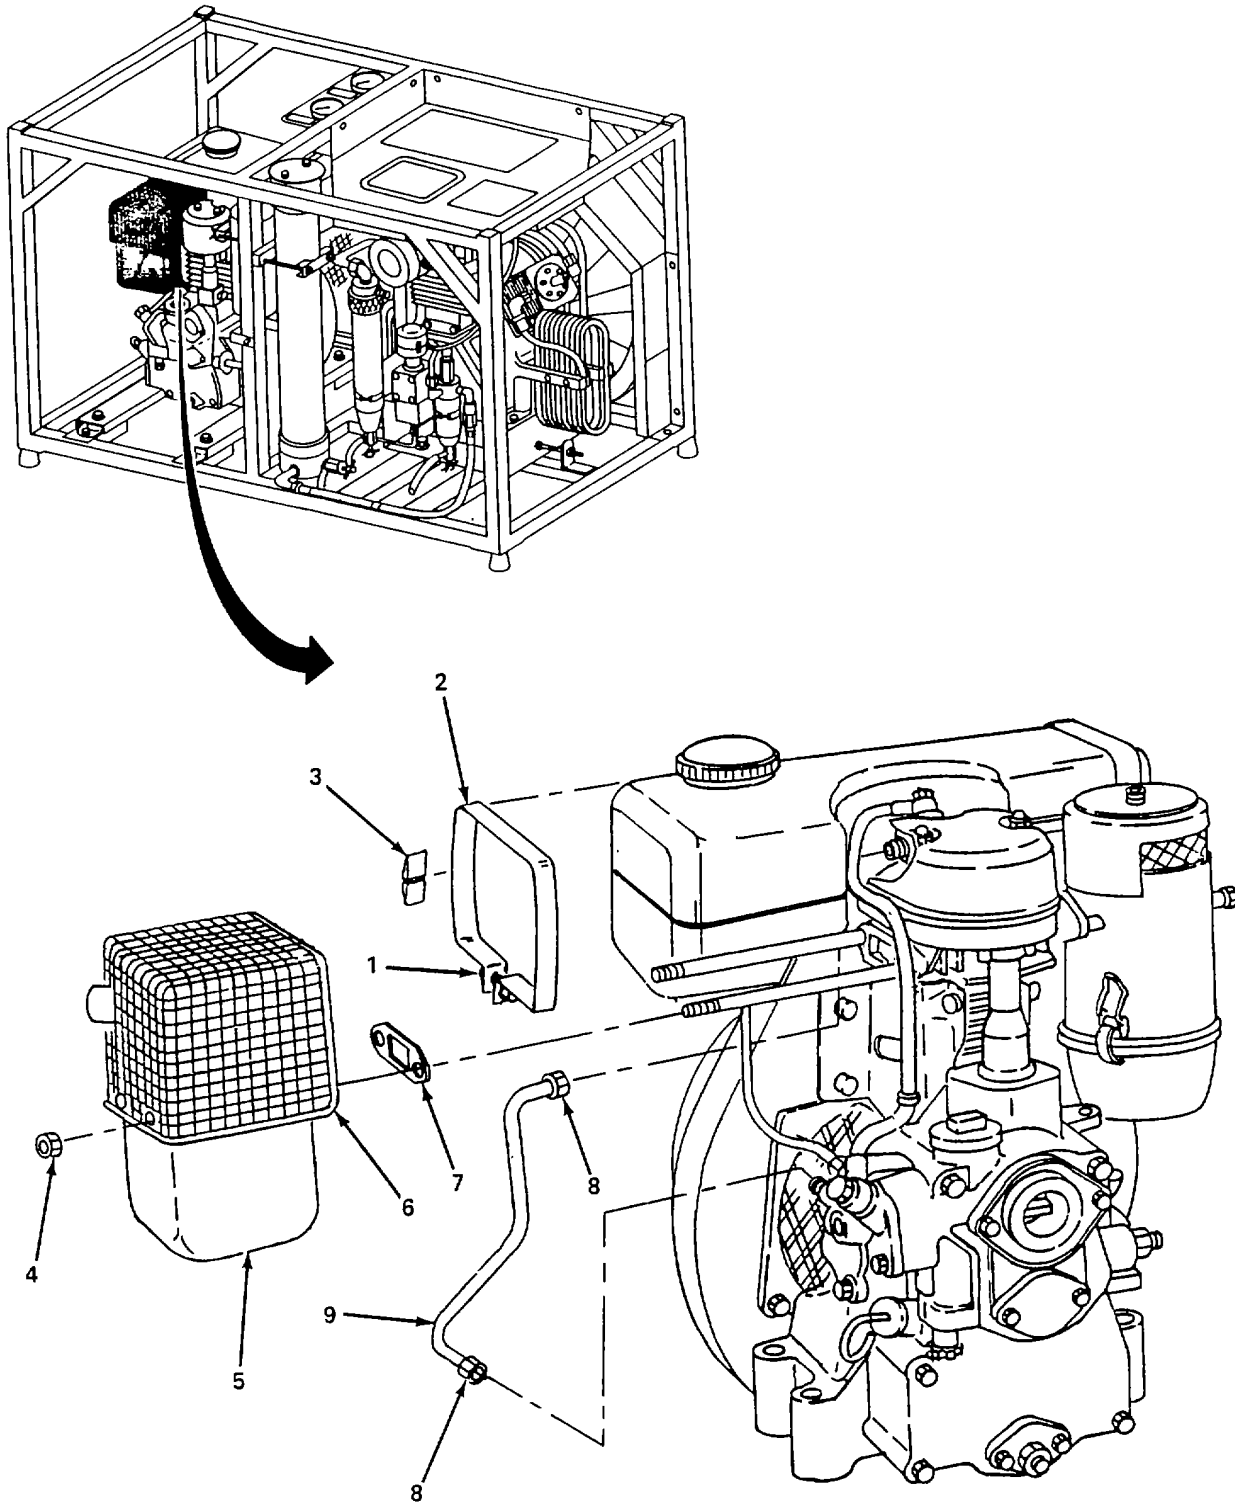

Figure 4-18. High Pressure Fuel Line, Replace
(2) *High pressure fuel line.* (figure 4-18)
- (a) Loosen nut (1) and remove clamp (2) and seam protector (3).
- (b) Remove two nuts (4), muffler (5), bracket (6) and gasket (7).
- (c) Loosen two connector nuts (8) and remove high pressure fuel line (9).
- (d) Inspect gasket (7) and replace if cracked or missing pieces.
- (e) Install high pressure fuel line (9) and tighten two connector nuts (8).
- (f) Install gasket (7), bracket (6), muffler (5) and secure with two nuts (4).
- (g) Install seam protector (3), clamp (2) and tighten nut (1).